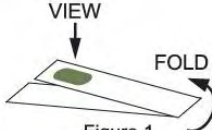

Figure 1
**NOTE:** For better color matching fold the white plastic handle of the test strip under the aperture so that it produces a white viewing background (see Figure 1).